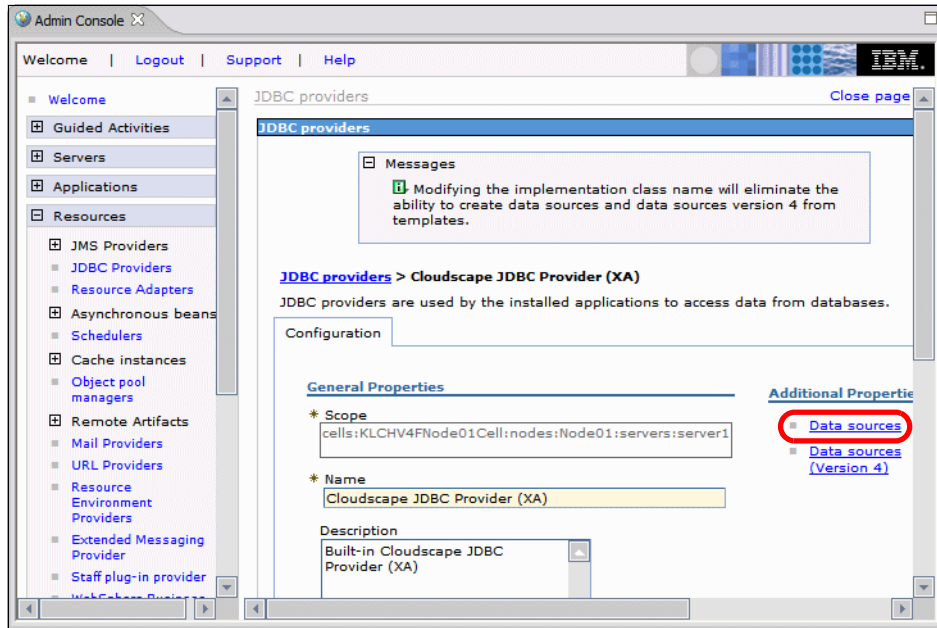

Figure 10-8 Cloudscape JDBC Provider (XA)
- ▶ Click *Cloudscape JDBC Provider (XA)*.
- ▶ Click *Data sources* to define the data source (Figure 10-8).